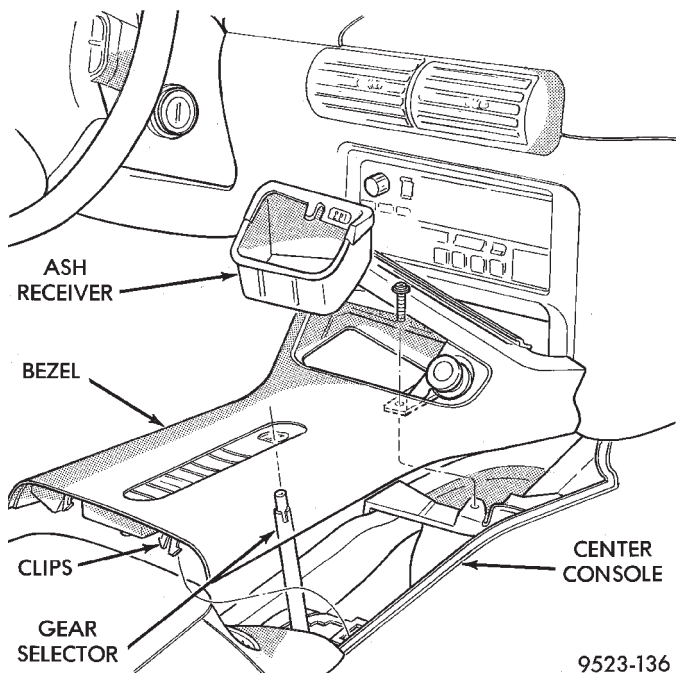

Fig. 53 Center Console Bezel
- (1) Place gear selector in neutral.
- (2) Loosen set screw holding gear shift knob to gear shift.
- (3) Remove gear shift knob from gear shift.
- (4) Remove ash receiver.
- (5) Remove screw holding bezel to center console (Fig. 53).